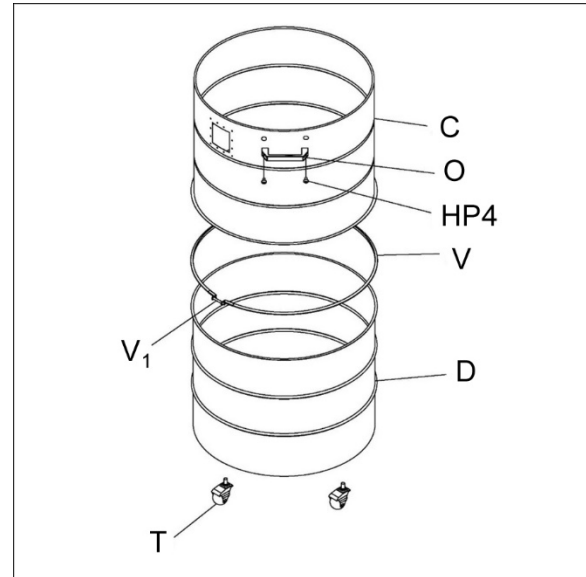

Figure 5-8
13. Assemble upper drum (C, Figure 5-8) to lower drum (D) and secure with drum clamp (V) by tightening screw (V₁).
14. Install handle (O) with screws (HP4). Handle should be opposite side from lower ports.
15. Turn drum over and install casters (T) into threaded holes beneath drum. Use the provided wrench to tighten.